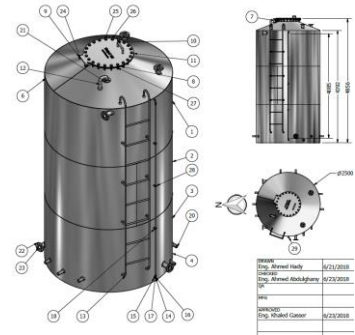

Figure 8 Clean Water tank with 20k Liters
- Design and supervise the building of a 20k Liter water tank (Figure 8).